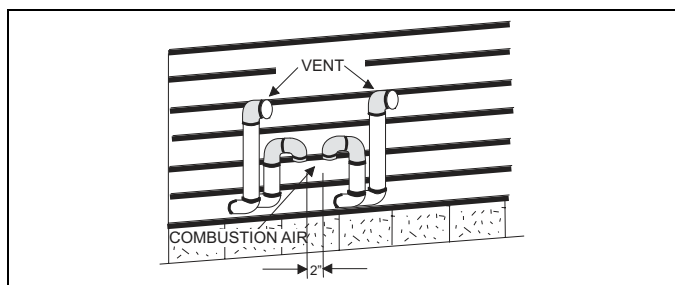

FIGURE 12: Double Horizontal Sealed Combustion Air and Vent Termination
7. Sealed combustion air systems must be installed so the vent and the combustion air pipes terminate in the same atmospheric zone. Refer to Figures 12 or 13.
6. Sealed combustion air systems must be installed so the vent and the combustion air pipes terminate in the same atmospheric zone. Refer to Figures 12 or 13.